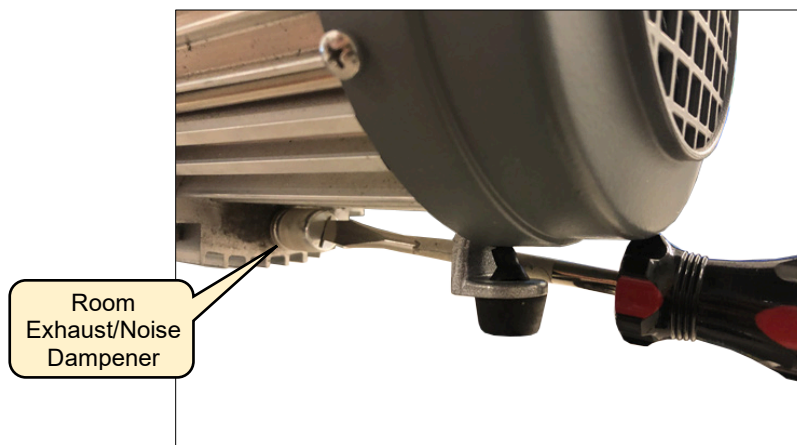

Figure 72: Pump Exhaust/Noise Dampener Removal
3. Using a flat head screwdriver, remove the analyzer pump room exhaust/noise dampener from the bottom of the pump (Figure 72). Note that due to close proximity of the pump foot, it may be difficult to remove the dampener using the screwdriver. As an alternative, use adjustable locking type pliers to remove the dampener.